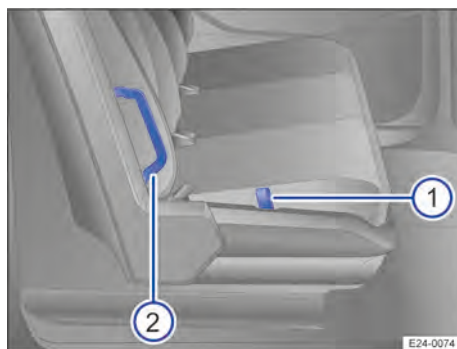

Fig. 75 Flexible partition in bench seat position.
1. Pull and hold the loop → Fig. 75 ①.
2. Pull the bench seat forwards using the handle → Fig. 75 ②.
2. Pull and hold the loop → Fig. 75 ①.
3. Pull the bench seat backwards using the handle → Fig. 75 ② and press down.